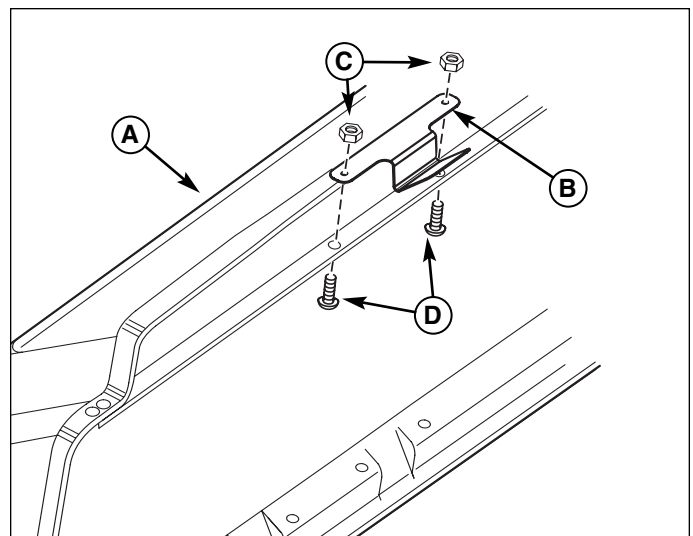

Figure 8. Install Latch
7. Install the new latch (B, Figure 8) to the cover assembly (A) securing with Existing #10-24 x 5/8 screws (D) and #10-24 locknuts (C) as shown.